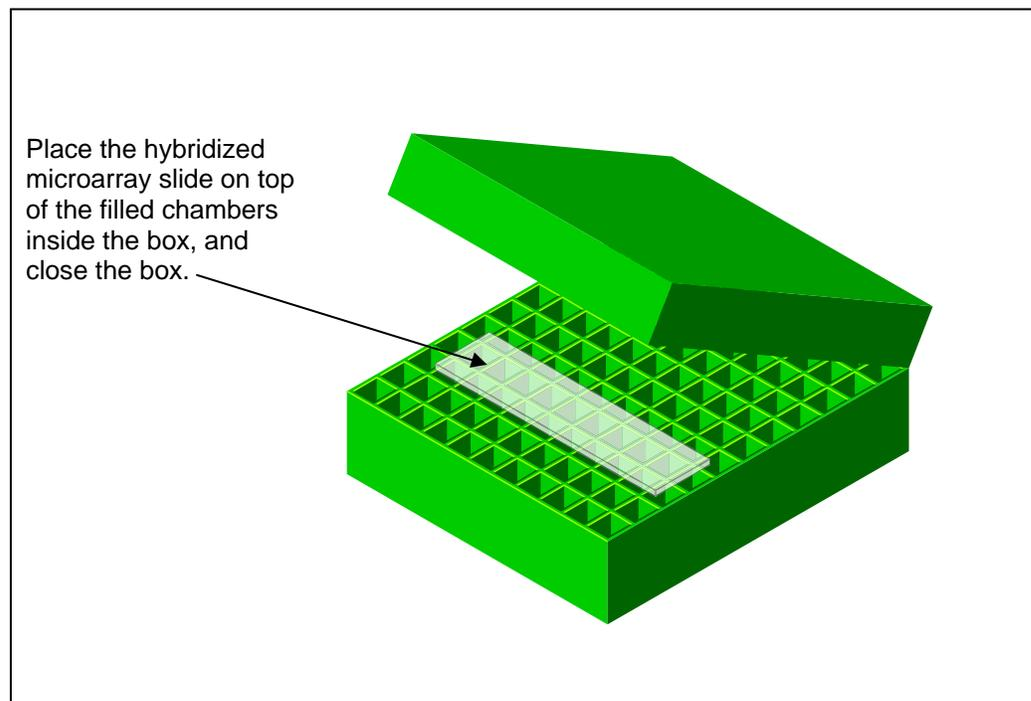

Figure 2: Step 4A(iii) → aRNA Hybridization—Glass Slide Inside Chamber Box²
- 11) Place the entire labeled target plus the microarray set-up into a closable, chambered box* that is humidified by 2X SSPE buffer in the 50°C oven for 14 to 16 hours. A sealed chamber ensures that the appropriate humidity level is maintained during incubation. (See Figure 2).
Figure 2, below, provides an illustration of Step 4A(iii), where the hybridization protocol is completed using the glass cover slide method, and specifically, the OneArray[®] DNA Microarray is placed into the chambered box.
- ii. Use the applicator stick provided to press along the adhesive areas to ensure a secure seal. Visually inspect the seal from underneath the microarray; inconsistent patterns in the black adhesive may indicate an insecure seal. Re-use the applicator stick if needed (Figure 2)